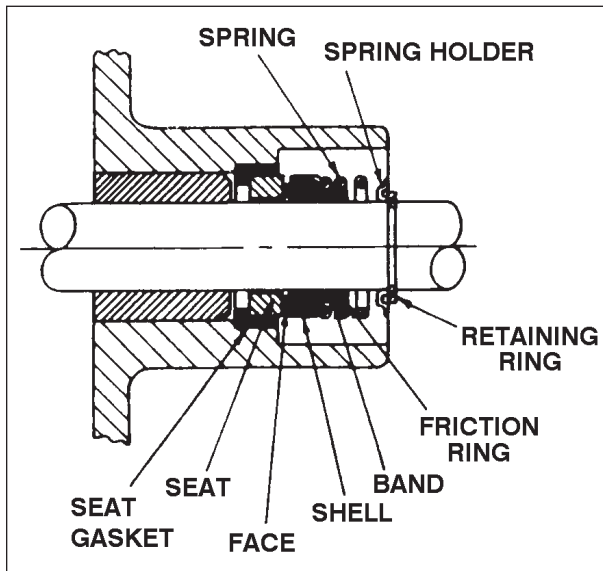

Figure 6-3 – Shaft Seal Assembly
10. Assemble the shaft seal assembly as follows (*see Figure 6-3*):